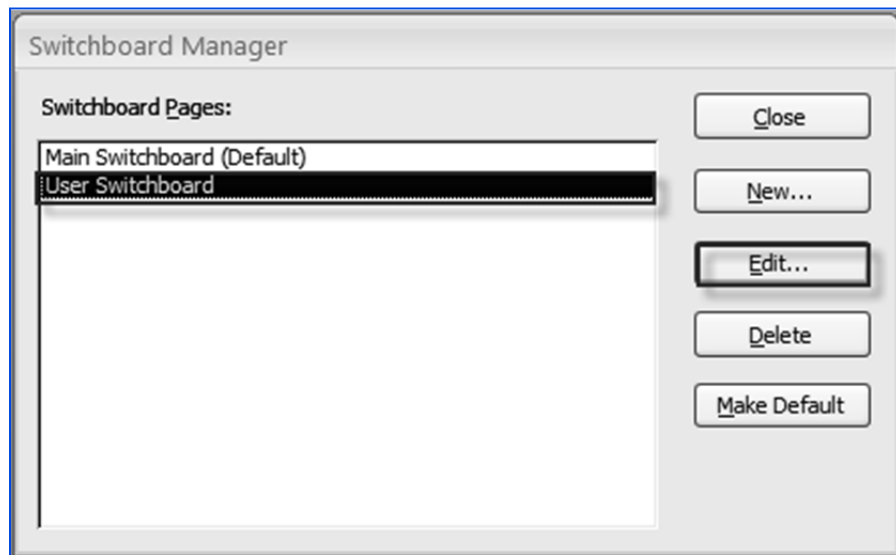

Fig. 4.3.7: Edit the switchboard to add buttons
3. In the *Switchboard Manager* dialog box, in the *Switchboard Pages* section, verify that *User Switchboard* is selected and click *Edit*, as displayed in Fig. 4.3.7.